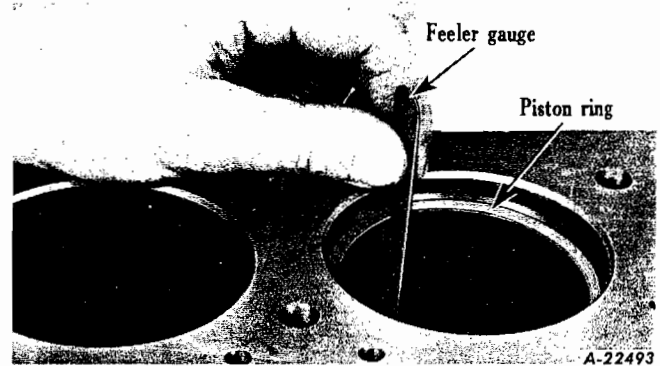

Fig. 40 - Checking ring gap.
- Place piston and connecting rod in vise. Test each piston ring for proper gap by placing in cylinder and measuring gap with feeler gauge. Gap should be .016" to .026" (Fig. 40).